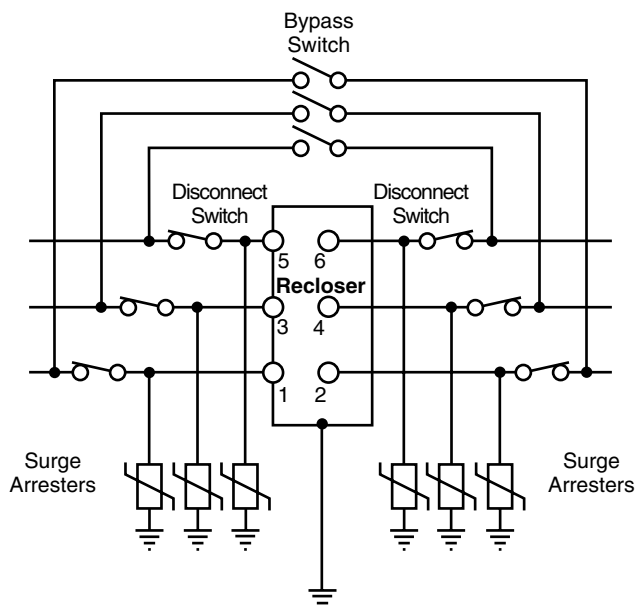

Figure 9.
6. Make high-voltage line connections (refer to Figures 9 and 10).
B. Provide surge arrester protection. Surge arrester protection should be provided on both sides; refer to Figure 9.